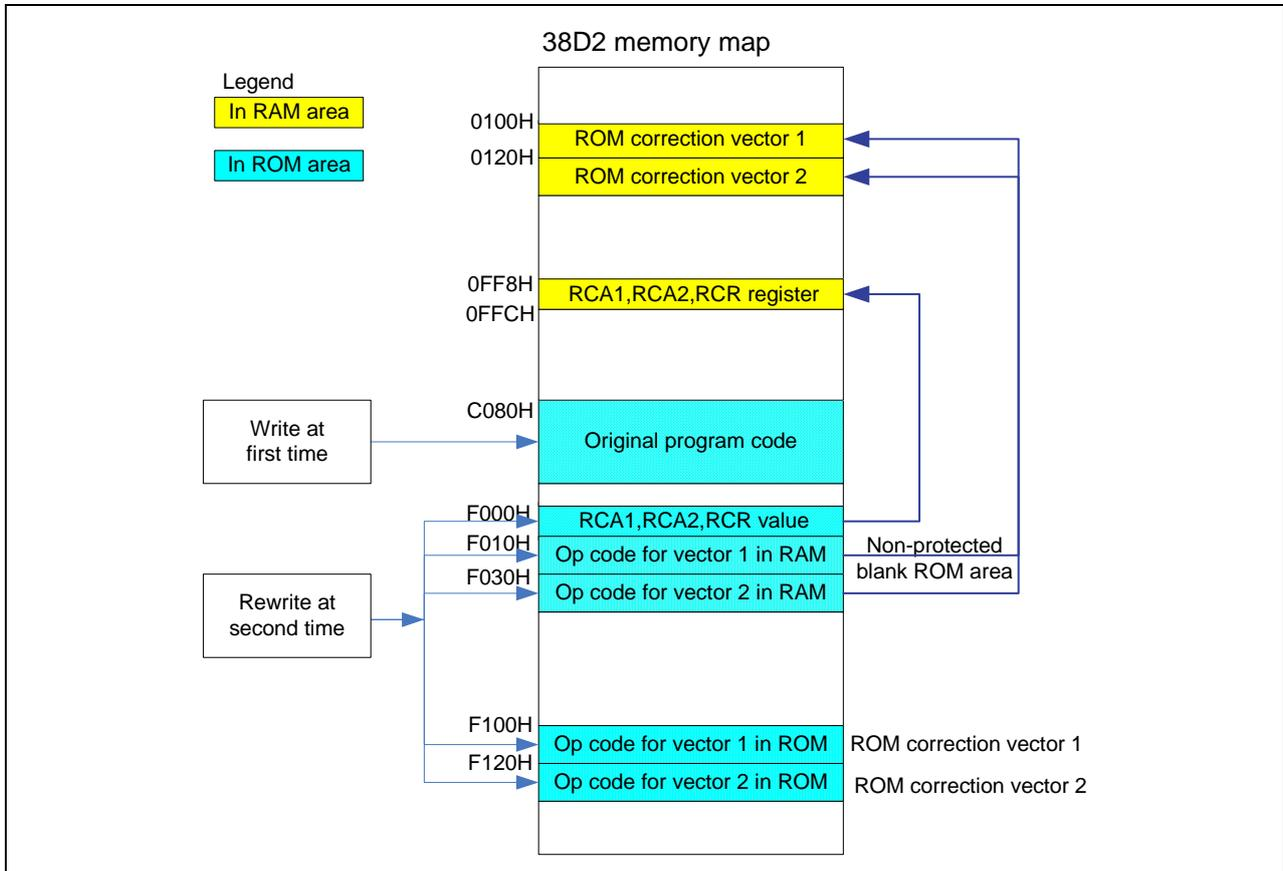

Figure 7 Explanation of Transfer Subroutine
- The location of the rewrite operation codes and the process of value transmission are shown in Figure 7. Select one of the correction vectors and set the corresponding RCR register value and write the program code there.